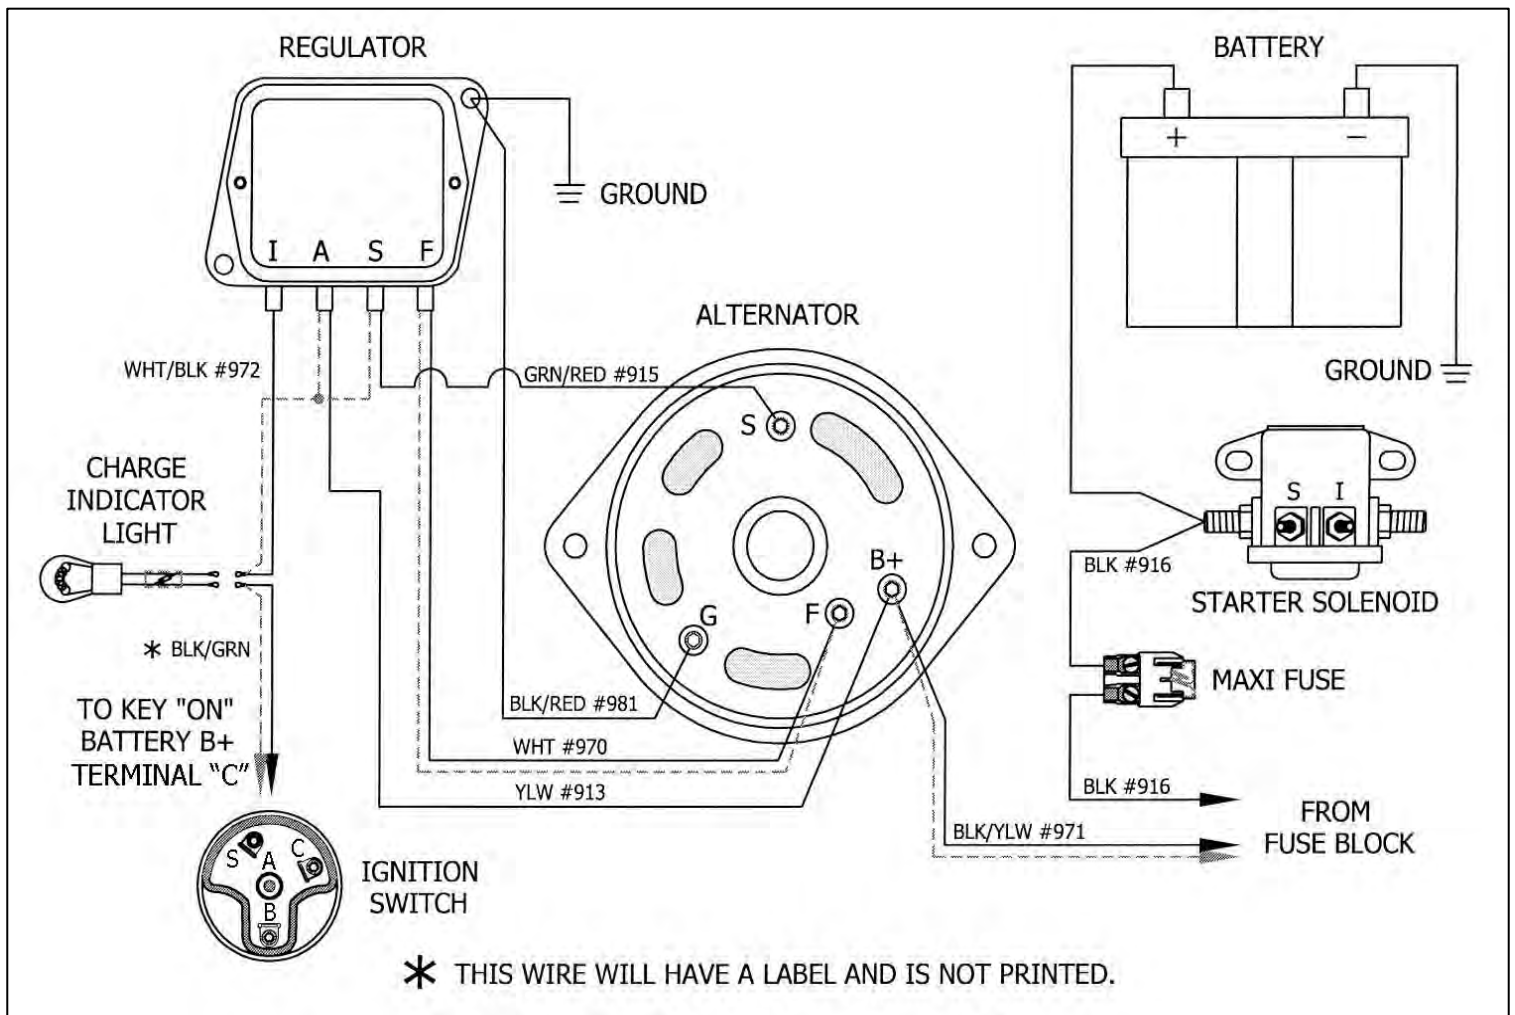

Figure 7-1 Ford Alternator (2 configurations)
7.1 Ford Alternator (2 configurations). See Figure 7-1.
*Note: Your Alternator may not appear exactly as represented in **Figure 7-1**. The circuits are wired the same way, though.*
- 7.1.7** An alternate (and less-used) method is to omit the Alternator Stator wire. Install a 14-gauge jumper across Voltage Regulator terminals "A" & "S", and connect wire #915(grn/red) to either the "A" or "S" terminal of the Voltage Regulator. The FIELD wire #970 (wht) and wire #971 (blk/ylw) are connected as above. The Voltage Regulator Ignition "I" terminal is not used. Install ground wires as in **Paragraph 7.1.6**. This alternate configuration is illustrated in dashed lines in **Figure 7-1**.